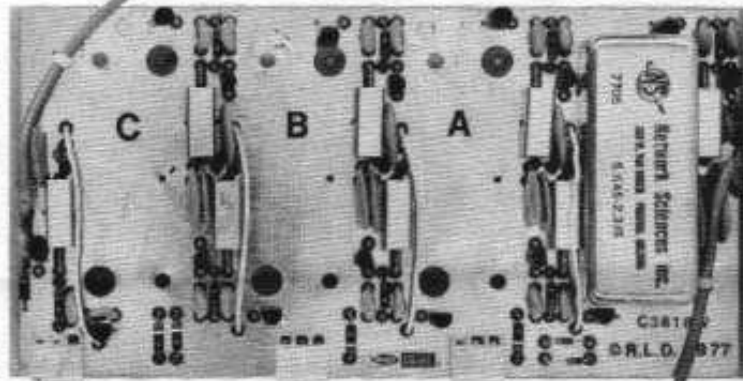

figure 3A - TR7 IF Selectivity Board (filter locations)
5. In the TR7, determine in which location (A, B or C) the accessory filter will be installed. Refer to figure 3A and identify this location.